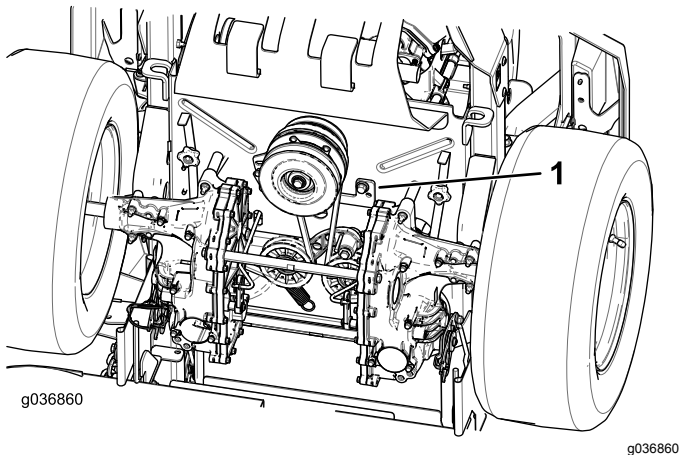

Figure 100
5. Remove the clutch stop (Figure 100).
9. Install the clutch stop (Figure 100).